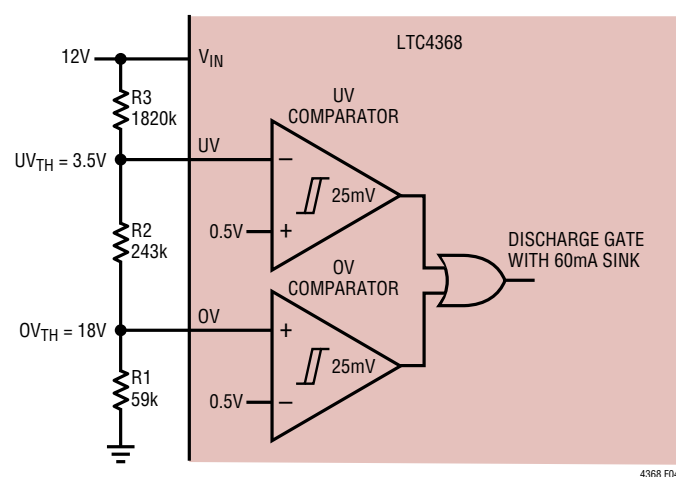

Figure 4. UV, OV Comparators Monitor 12V Supply
The LTC4368 provides two accurate comparators to monitor for overvoltage (OV) and undervoltage (UV) conditions at  $V_{IN}$ . If the input supply rises above the user adjustable OV threshold, the gates of the external MOSFETs are quickly turned off, thus disconnecting the load from the input. Similarly, if the input supply falls below the user adjustable UV threshold, the gates of the external MOSFETs are quickly turned off. Figure 4 shows a UV/OV application for an input supply of 12V.
The external resistive divider allows the user to select an input supply range that is compatible with the load at  $V_{OUT}$ . Furthermore, the UV and OV inputs have very low leakage currents (typically  $< 1nA$  at  $100^{\circ}C$ ), allowing for large values in the external resistive divider. In the application of Figure 4, the load is connected to the supply only if  $V_{IN}$  lies between 3.5V and 18V. In the event that  $V_{IN}$  goes above 18V or below 3.5V, the gate of the external N-channel MOSFET is immediately discharged with a 60mA current sink, thus isolating the load from the supply.
The following 3-step procedure helps select the resistor values for the resistive divider of Figure 4. This procedure minimizes UV and OV offset errors caused by leakage currents at the respective pins.
The example of Figure 4 uses standard 1% resistor values. The following parameters were selected: